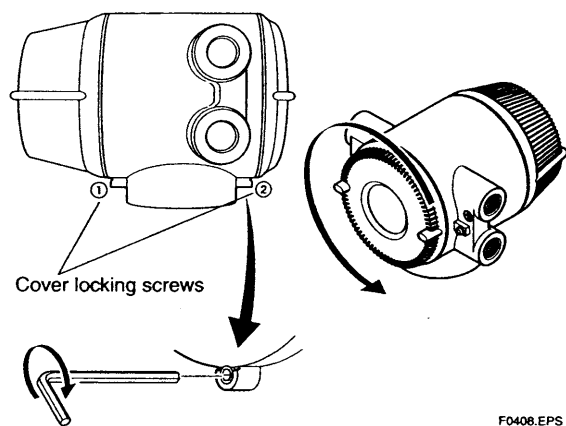

Figure 4.4.1 Removing the Terminal Box Cover
- The terminal box cover is locked by the special screw. In case of opening the terminal box cover, use the hexagonal wrench attached. For handling the locking screw, refer to Figure 4.4.1.